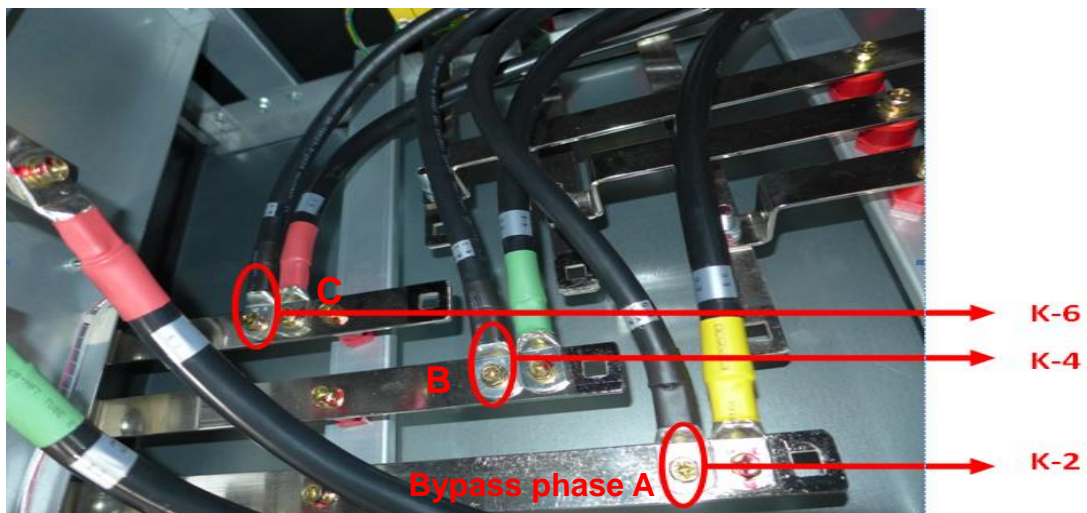

Figure 4 Cables connection
4. Connect the 4 pcs cables (W04B, W05B, W06B and W17) between bypass terminals and maintenance bypass switch, as is shown in figure 4 and 5.